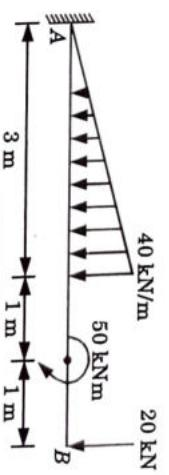

Fig. 1.27.1.
- Que 1.27.** Calculate the support reactions in the given cantilever beam as shown in Fig. 1.27.1.
**Given :** Fig. 1.27.1.